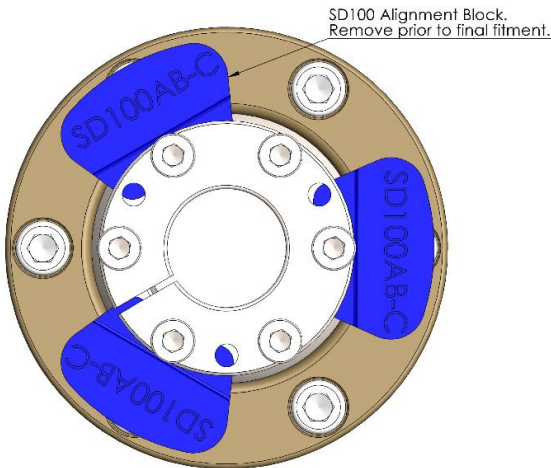
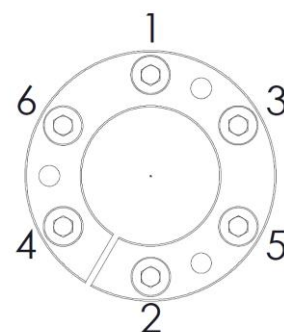

Fig 1. Alignment block
Fig 3. Tightening Sequence
6. Insert the clamp unit into the central sphere and loosely tighten the M8 taper locking bolts (9) using an allen key in a crossed sequence (see fig 3). If alignment blocks are not being used (see fig 1), then go to step 8.
7. Use the alignment blocks to hold the clamp unit parallel. Insert the blocks evenly spaced under the clamp unit as per fig 1, and gently tighten the taper locking bolts (9), to sufficiently hold the alignment blocks in place. Do not torque the taper locking bolts (9) until alignment is complete and the alignment blocks have been removed. Proceed with normal alignment and fixing methods with propeller shaft and gearbox, taking care not to exceed the maximum working angle when centering Sigmadrive to gearbox output flange. Please go to step 9.
9. Once the SigmaDrive is aligned with the gearbox flange. Fit the M10 Nyloc nuts (13) and locking washer (12) to the M10 high tensile studs (11) and tighten firmly to a torque of **61Nm**.
11. Tighten the M8 taper locking bolts (9) in the sequence indicated in fig 3 at least 3 times by hand using an allen key.
12. Tighten the M8 taper locking bolts (9) in the sequence indicated in fig 3 with a torque wrench to 25Nm, then 30Nm and finally 38Nm. Only tighten to required torque once. Do not exceed 38Nm of torque, this could make it difficult to remove if it is overtightened.